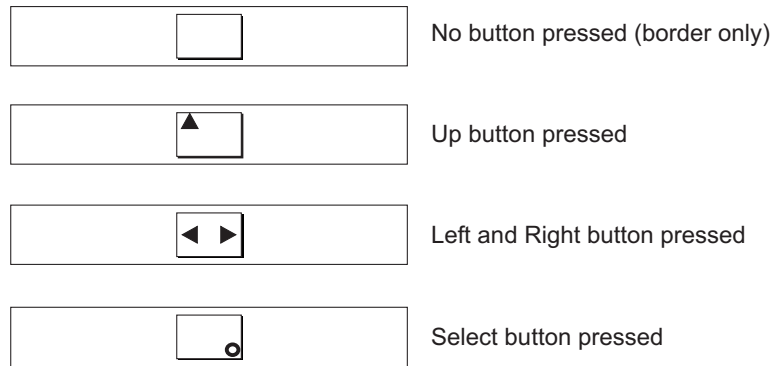

Figure 35. Front panel display when push buttons are pressed
3. Press the up, down, left, and right buttons to verify that they are working. See Figure 35, which shows four examples of what the front panel should display when you press the buttons. When you have finished testing the buttons, press and hold the select button for five seconds to exit the test.